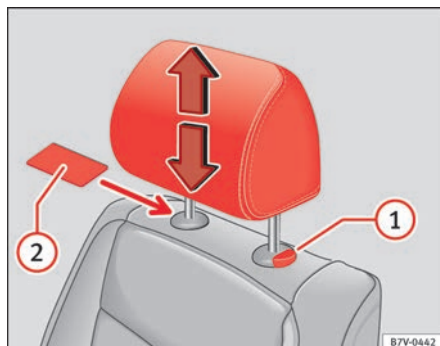

Fig. 86 Removing the front head restraint.
- Unlock the head restraint using a flat object such as a plastic card, if required, sliding it between the upholstery of the head restraint and the head restraint rod-guide cover ⇒ fig. 86 .